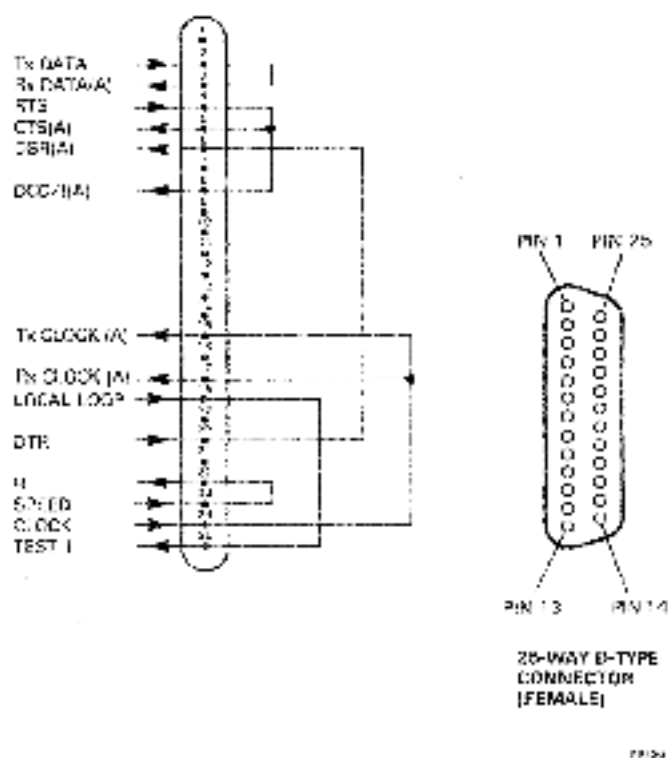

Figure 2-12 H3248 Loopback Connector
2.9.3.5 H3248 37-Way Loopback Connector (V.24) – This connector is used to test the V.24 interface of the sync channel and the V.24 adapter cable. It is a 37-way D-type connector, and is wired as shown in Figure 2-12.